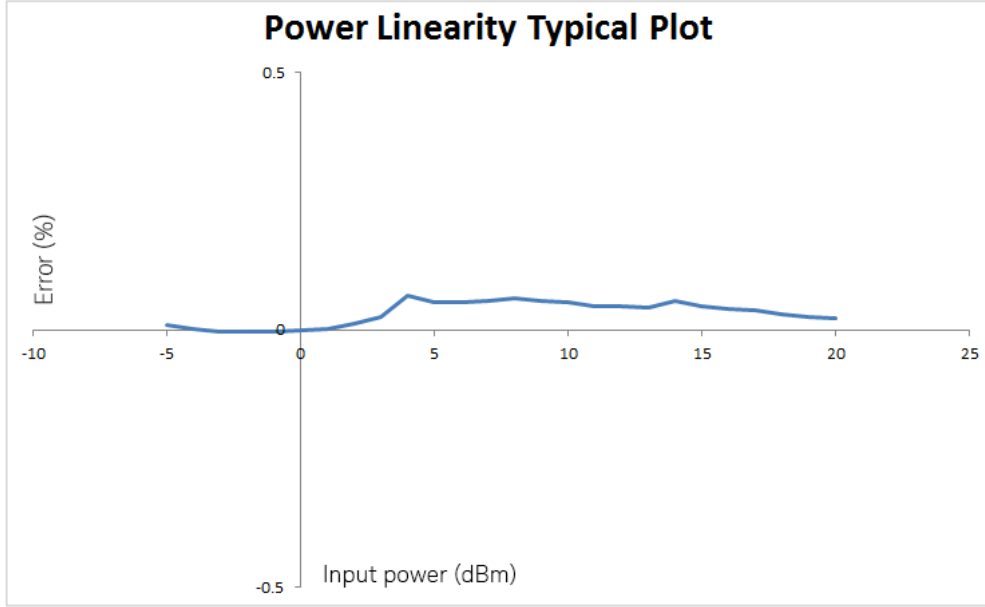

Figure 1. Typical U8480 Series power linearity at 25 °C with measurement uncertainty of $\pm 0.21\%$
1. After zeroing and calibration at room temperature. Power Linearity is negligible below -1 dBm. Linearity specifications do not include zero set, zero noise or measurement noise that dominantly contribute to the measurement uncertainty at the power levels within 10 dB of the lowest measurable power. Typical performance is given in Figure 1.